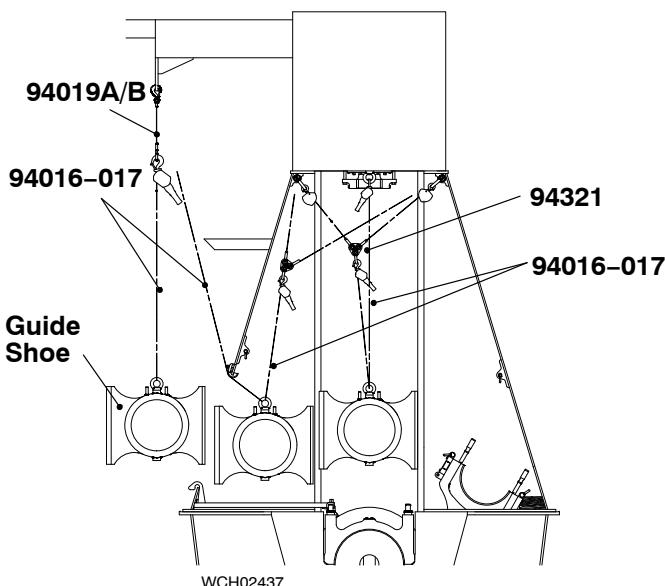

Fig. 9
- 1) Attach the two manual ratchets (94016-017, Fig. 9) to the eye bolt on the guide shoe.